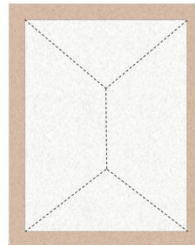

Figure 1: Cut
- Cut the Tyvek® HomeWrap™ building wrap over the window or door opening as shown in Figure 1: Cut